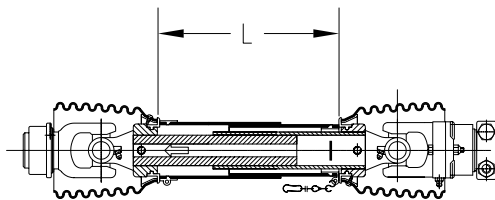

Fig. 4-3
1. Fully collapse PTO shaft and measure length "L" (Fig. 4-3).
7. When installing new bearings (9003920) onto new driveshaft (9007718), assemble new 25" PVC driveshaft cover (291555) between bearings near the gearbox, and new 36" PVC driveshaft cover (291554) between bearings behind the hitch driveline cover. (FIG. 4-3)
8. Slide the hitch end of the driveshaft, bearing and hitch driveline cover into the bearing near hitch of the cart. (FIG. 4-3)